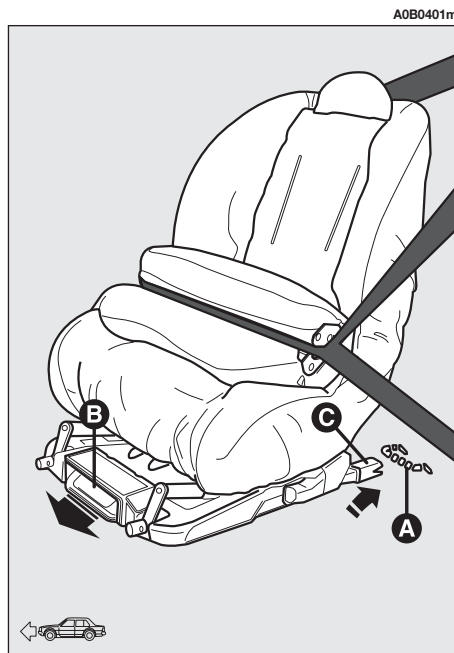

fig. 62
- check whether the release lever (**B**-fig. 62) is at rest position (inward);